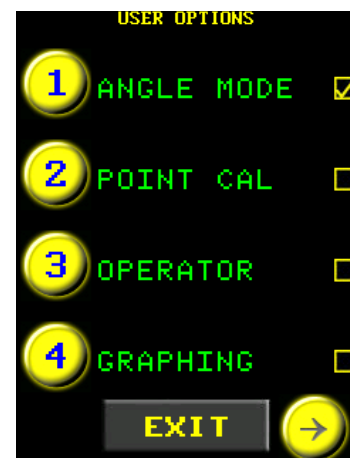

Figure 5.3-2: User Options Menu
3. Select “Angle Mode” to toggle Angle Mode on or off (Figure 5.3-2).